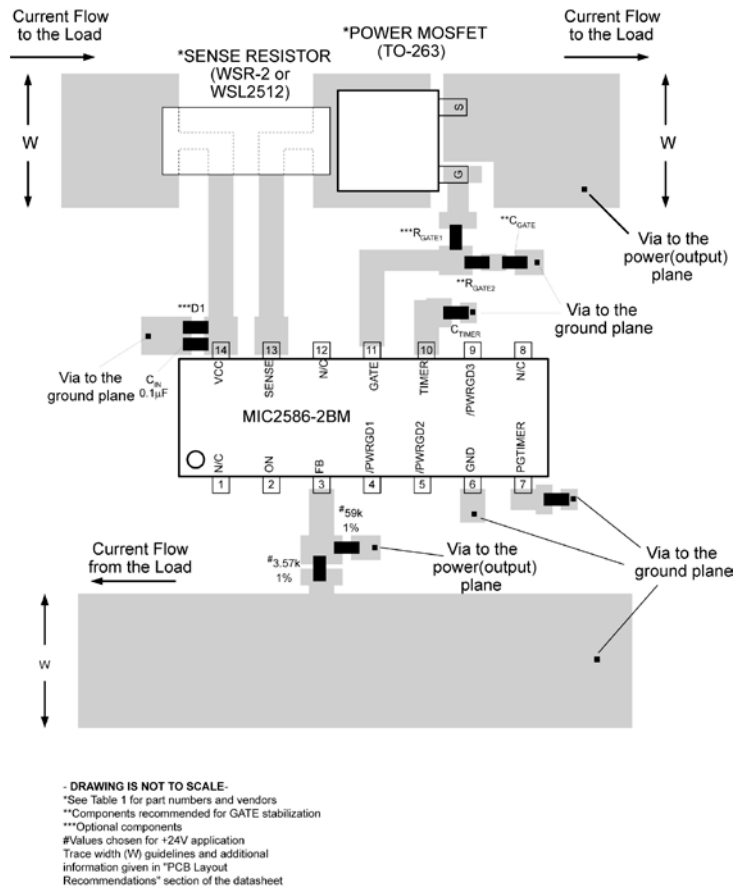

Figure 10. Recommended PCB Layout for Sense Resistor, Power MOSFET, Timer, and Feedback Network
Figure 10 is a recommended PCB layout diagram for the MIC2586-2BM. Many hot swap applications will require load currents of several amperes. Therefore, the power (V_{CC} and Return) trace widths (W) need to be wide enough to allow the current to flow while the rise in temperature for a given copper plate (e.g., 1oz. or 2oz.) is kept to a maximum of 10°C to 25°C. Also, these traces should be as short as possible in order to minimize the IR drops between the input and the load. The feedback network resistor values in Figure 10 are selected for a +24V application. The resistors for the feedback (FB) and ON pin networks should be placed close to the controller and the associated traces should be as short as possible to improve the circuit's noise immunity. The input "clamping diode" (D1) is referenced in the typical application circuit. If possible, use high-frequency PCB layout techniques around the GATE circuitry (shown in the typical application circuit) and use a dummy resistor (e.g., $R_3 = 0\Omega$) during the prototype phase. If R_3 is needed to eliminate high-frequency oscillations, common values for R_3 range between 4.7 Ω to 20 Ω for various power MOSFETs. Finally, the use of plated-through vias will be needed to make circuit connection to the power and ground planes when utilizing multi-layer PCBs.